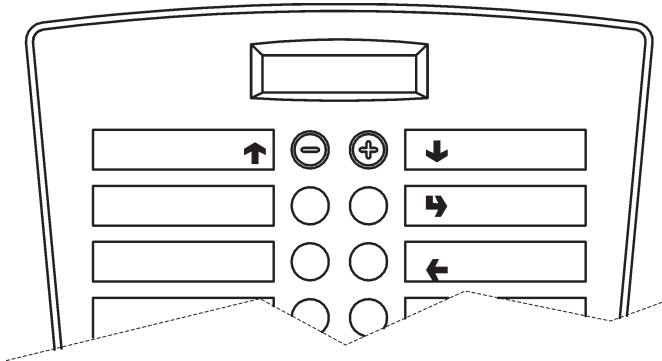

Fig. 25
- External direct selection push-button panel which takes on the following functions when in "Filler" and "Technician" mode (see Fig. 25):